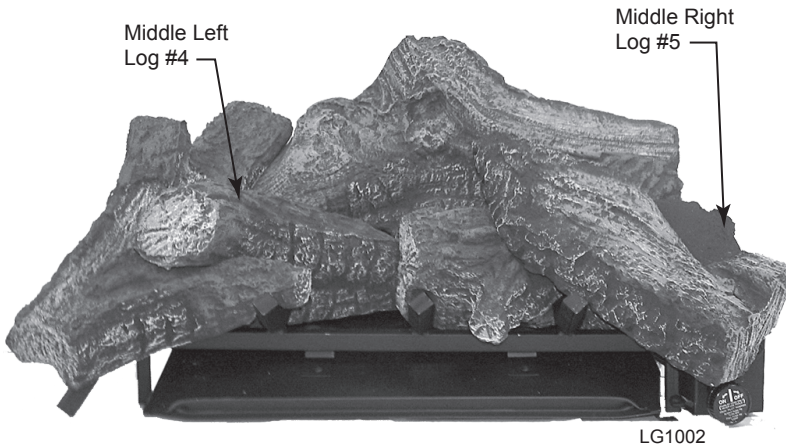

Figure 11
4. Place one end of middle left log (#4) on bottom left log. Rest other end of middle left log (#4) behind middle right log. *Figure 11*
5. Place middle right log (#5) on top of bottom right log. *Figure 11*